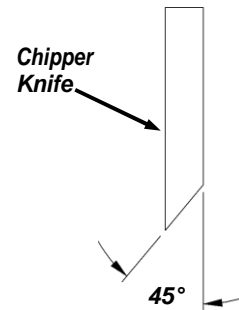

Figure 37
- ❑ It is extremely important to consistently maintain the 45-degree angle for proper performance (**Figure 37**).